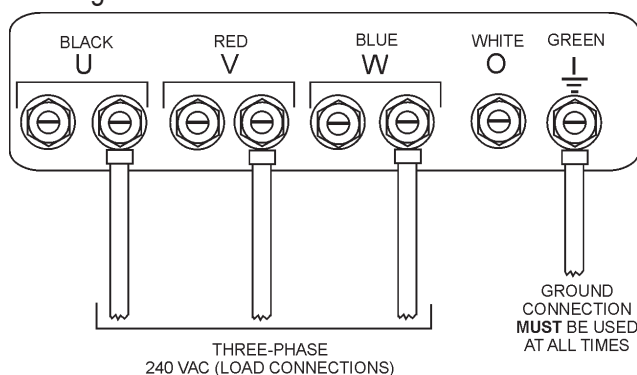

Figure 22. UVW Terminal Lugs
2. Connect the load wires to the UVW terminals as shown in Figure 22.